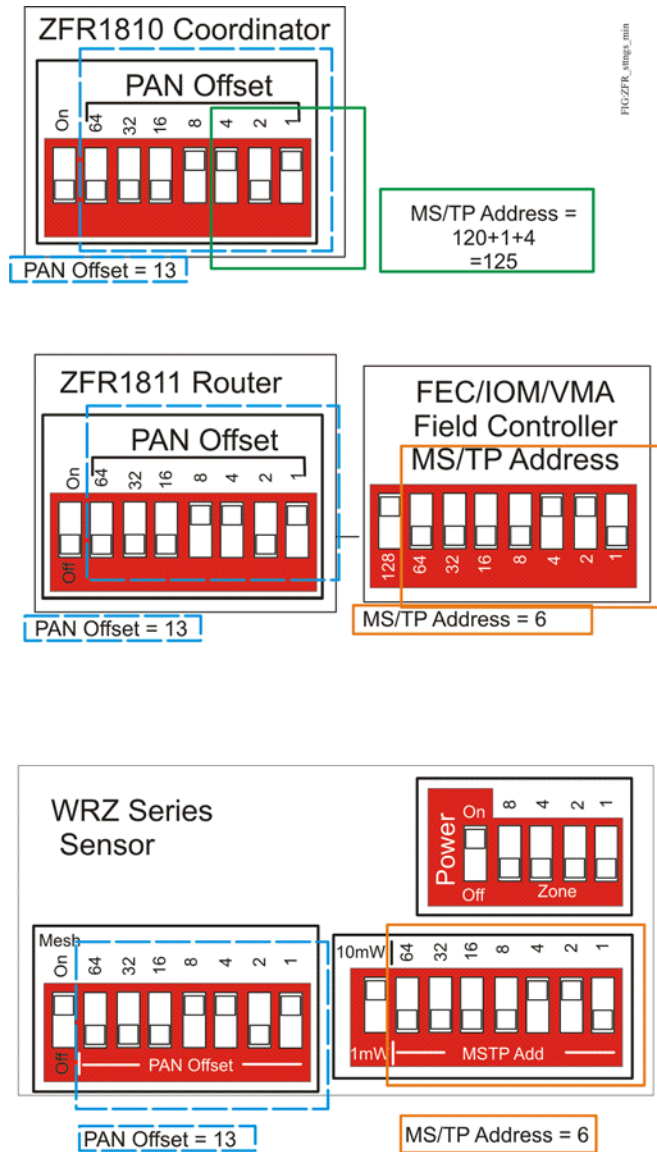

Figure 4: Sample DIP Switch Settings
5. Turn on WRZ Sensors using the power DIP switch (see Figure 4). The sensors locate the nearest parent device on the wireless mesh within 15 minutes.